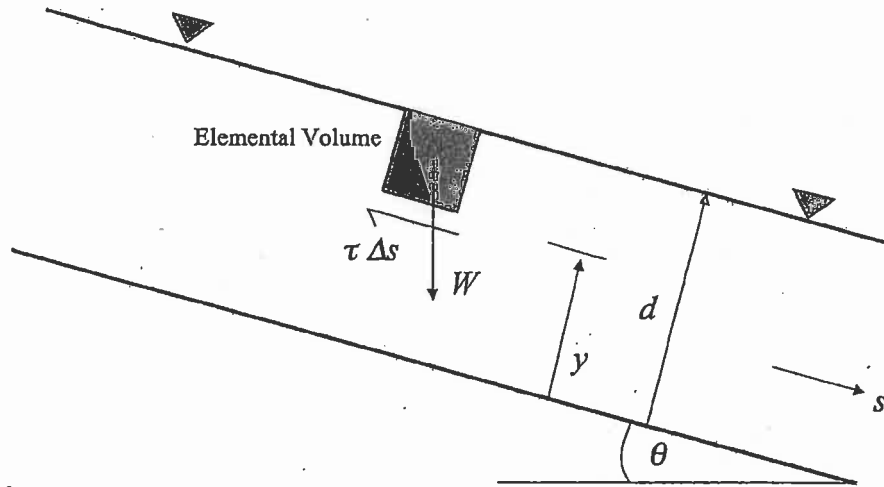

Figure 5. Elevation view of open channel.
5. The open channel in Figure 5 carries flow under steady-state, uniform, and laminar conditions. Pressure in the fluid column is hydrostatic. Under these conditions, a momentum equation can be written to describe the balance between the self weight and shear force that act on the elemental volume of fluid such that